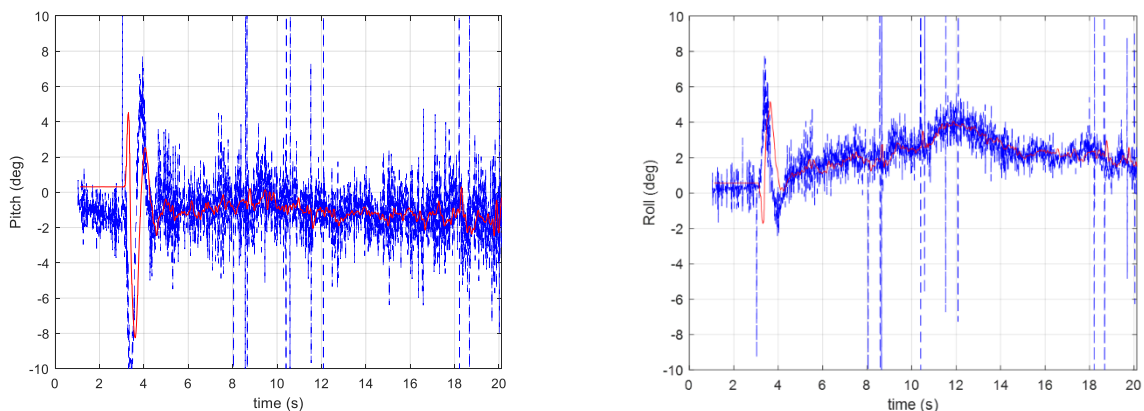

Figure 7: Roll and Pitch Data for an average takeoff and land test using *demo.py*
- f. The average of the blue-line in the pitch and roll graph should be around 0° for this test, but if it is not you may need to “trim” the drone, even if the flight appeared stable. In the case of Figure 7 above, you may want to trim the Pitch up